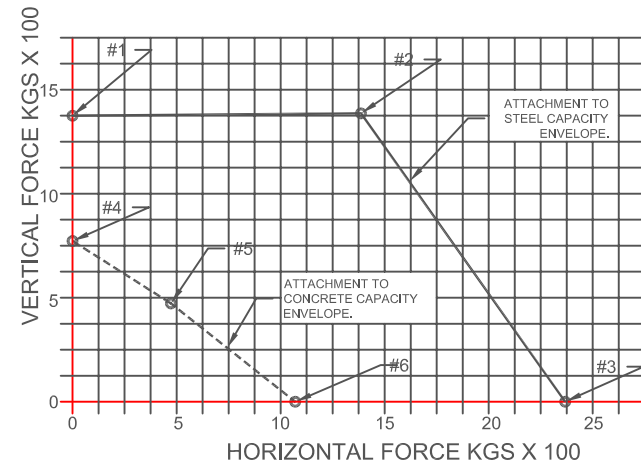

FIGURE 1
- 1) READ THE ANCHORED (CONCRETE) OR BOLTED (STEEL) ENVELOPES DIRECTLY FROM FIGURE 1 AT RIGHT
- 3) PLOT THE VERTICAL RESTRAINT CAPACITY FROM CURVE #1 (FIGURE 2) OR #4 (FIGURE 3) ON THE VERTICAL AXIS OF FIGURE 1.
- 4) PLOT THE HORIZONTAL RESTRAINT CAPACITY FROM CURVE #3 (FIGURE 2) OR #6 (FIGURE 3) ON THE HORIZONTAL AXIS OF FIGURE 1.
- 5) PLOT THE COMBINED RESTRAINT CAPACITY FROM CURVE #2 (FIGURE 2) OR #5 (FIGURE 3) AT THE POINT ON FIGURE 1 WHERE THE VERTICAL AND HORIZONTAL FORCES BOTH MATCH THIS VALUE.